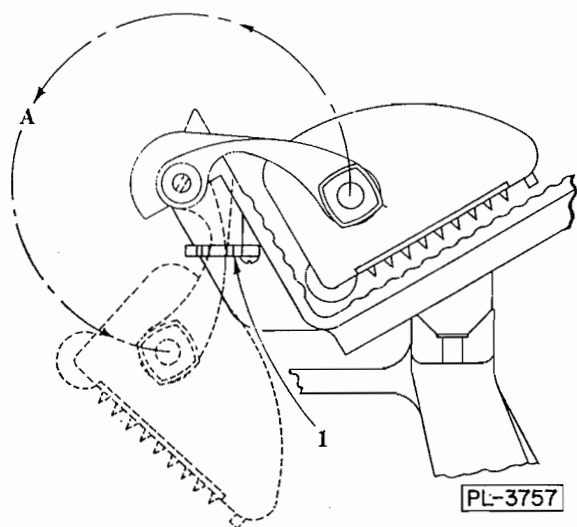

FIG. 2
- b. Swing the grip around as shown by arrow and broken line (A, Fig. 2).
- c. Rotate the grip into a position that allows it to nest in the grip retaining clip (1, Fig. 2).
After a few slices have been cut and the end of the piece is squared off, the meat will usually feed without help from the grip. For safety reasons, when cutting a short end piece, ALWAYS place the grip behind the item being sliced. This method also allows cutting down to the last slice. The grip, when not in use, may be moved to its in-operative position at the end of the carriage tray as described in section 4 and illustrated in figure 2.